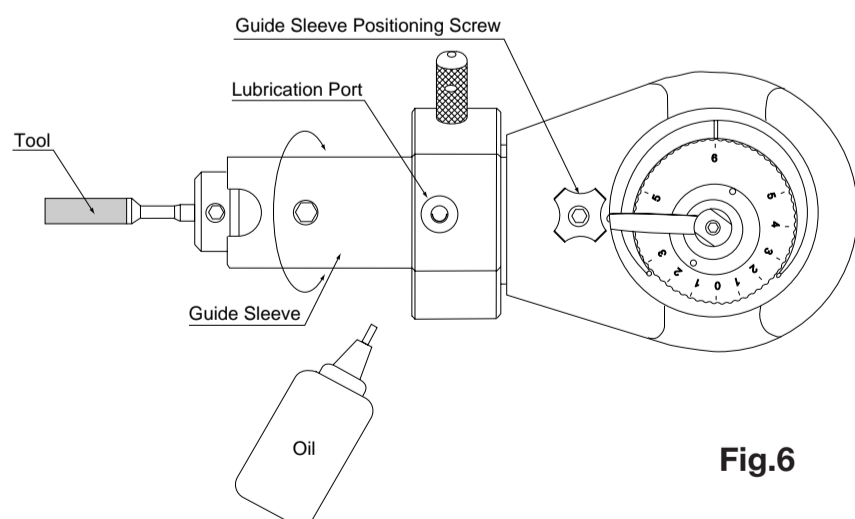

Fig.6
- Loosen the guide sleeve positioning screw to make the guide sleeve smoothly rotate. (Fig.6)
- Fasten the guide sleeve positioning screw to fix tool. (Fig.6)
Lubricate LUSTER at least once a day from the lubrication port as shown. (Fig.6)